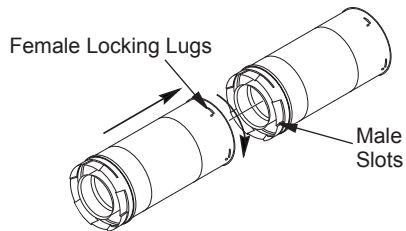

Figure 8 - Vent Pipe Connections
Twist-Lock Procedure: Female ends of pipes have locking lugs (indentations). These lugs will slide straight into matching slots on male ends of adjacent pipes. Push pipe sections together and twist one section clockwise approximately one-quarter turn until the sections are fully locked (see Figure 8).
2. Assemble the desired lengths of pipe and elbows necessary to reach from fireplace flue up through firestop. Be sure all pipe and elbow connections are fully twist-locked (see Figure 8, page 10).